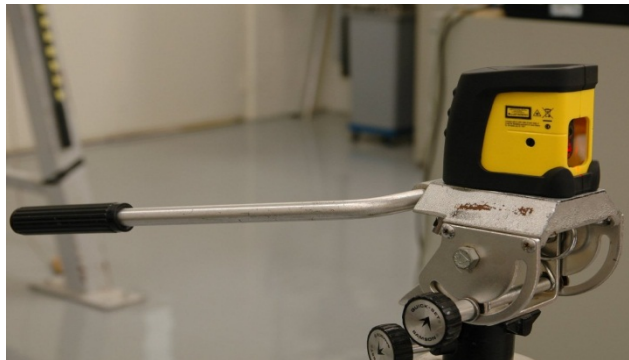

Figure 57. Laser line device set on tripod
- With the pendulum in its lowest resting position, draw a reference line along the bench support surface along the path of the pendulum; using a line laser device¹⁷ (set for vertical) positioned on a tripod (Figure 57) will aid in this process.